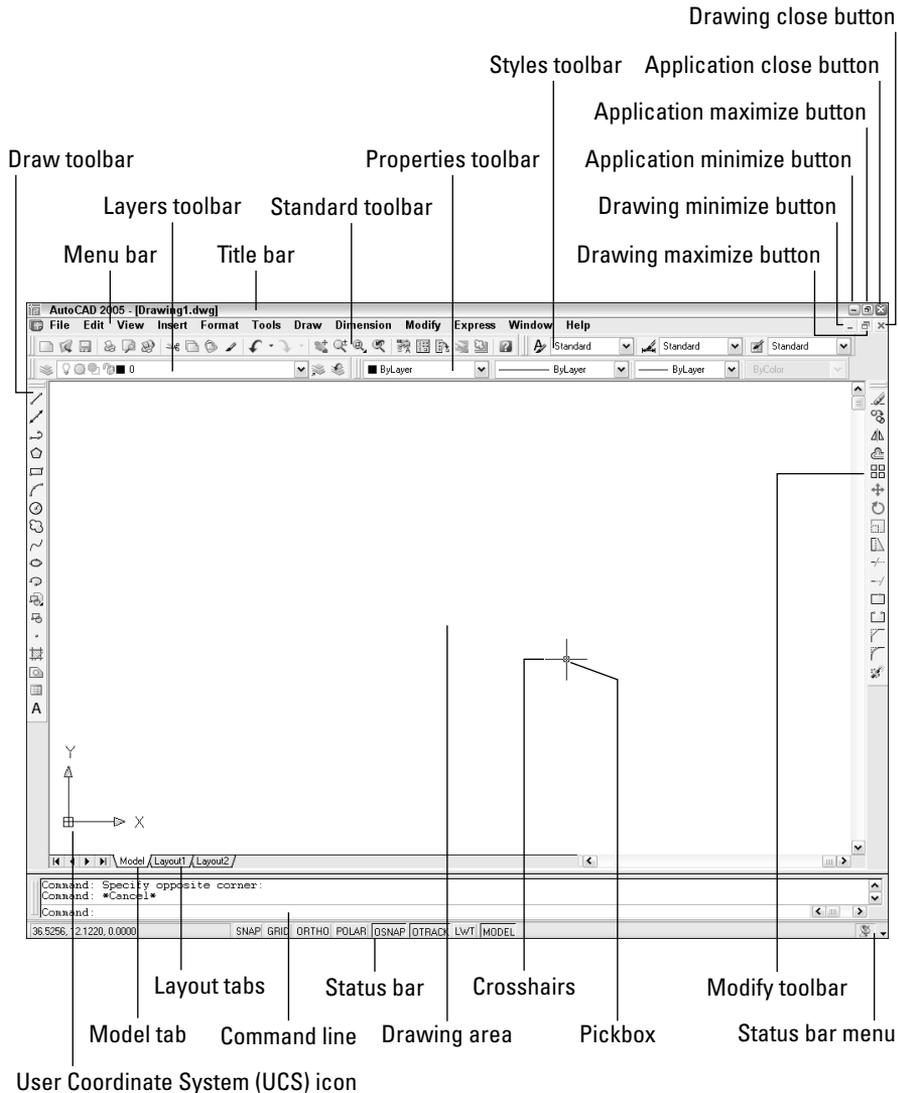

Figure 1-2: The AutoCAD and AutoCAD LT screen are almost identical.
Figure 1-2 shows the screen that appears when you first open AutoCAD or AutoCAD LT. Your screen may look somewhat different — remember that AutoCAD and AutoCAD LT can be customized in many ways — but the general features will be the same.
You may see the Tool Palettes window with some sample office furniture and hatches. You may also see (AutoCAD only) the Sheet Set Manager. I cover the Tools Palettes and Sheet Set Manager in Chapter 26. For now, you can click the palettes' close button to get them out of the way. You may also see the Info Palette, which I cover in Chapter 3. Finally, your screen is probably black, rather than the white screen you see in Figure 1-2. I explain how to change the drawing area color in Appendix A. The AutoCAD LT screen is very similar to the AutoCAD screen.
Notice the symbol with two arrows at the bottom-left corner of the drawing area in Figure 1-2. This symbol is called the User Coordinate System (UCS) icon. The arrows point to the positive directions of the X and Y axes to help you keep your bearings.
In the drawing area of Figure 1-2, notice the two intersecting lines with a small box at their intersection. The small box is called the *pickbox* because it helps you to pick objects. The lines are called *crosshairs*. They show you the location of the mouse cursor in relation to other objects in your drawing.
At the top of your screen is the title bar, and directly beneath the title bar is a menu bar. Below that are two rows of toolbars. In addition, your screen has two more toolbars, the Draw and Modify toolbars, which are probably docked at the left and right sides of the screen (refer to Figure 1-2). Use the menus and toolbars together to give AutoCAD or AutoCAD LT commands to draw, edit, get information, and so on.
At the very bottom of the screen is the *status bar* (refer to Figure 1-2). At the left are the X,Y coordinates. As you move your mouse, these coordinates change. (If they don't change, click them and move your mouse again.) The status bar also sports several buttons that I explain later in this book.
3.  To save the drawing, click Save on the Standard toolbar (refer to Figure 1-2 to find this toolbar). In the Save Drawing As dialog box, use the Save In drop-down list to navigate to the *AutoCAD Bible* folder that you created in the previous exercise. Type **ab01-01** in the File Name text box and click Save. This name means that this is the first drawing from Chapter 1 of the *AutoCAD 2005 and AutoCAD LT 2005 Bible*. (I go into more detail about saving a drawing in the next section of this chapter.)
4. From the Layer Control drop-down list on the Layers toolbar (refer to Figure 1-2 to find this toolbar), click the down arrow and choose WINDOW. (Layers allow you to organize your drawing; I cover them in detail in Chapter 11.) Anything you draw will now be on the WINDOW layer.
5.  With your left mouse button (also called the *pick button*), choose Rectangle from the Draw toolbar (refer to Figure 1-2 to find this toolbar). (Using toolbars is only one way to give AutoCAD and AutoCAD LT commands. I explain other ways in Chapter 3. You can find more about drawing lines and rectangles in Chapter 6.)
7.  To create a second rectangle inside the first one, choose Offset from the Modify toolbar, (refer to Figure 1-2 to find this toolbar) following these prompts: